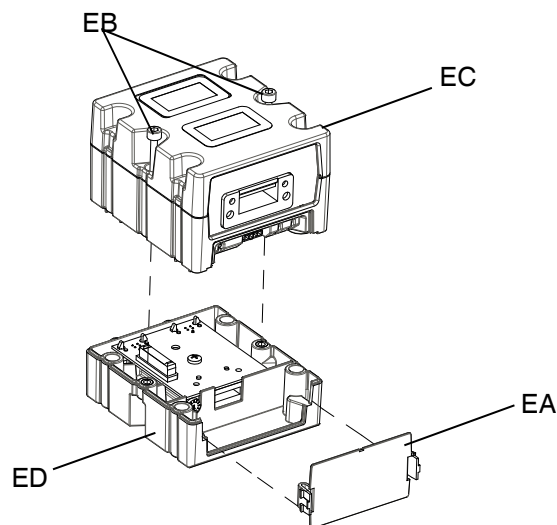

FIG. 60: Disassembling the CGM
4. Remove the access cover from the CGM (EA). Loosen the two screws (EB) and remove the CGM (EC) from the base (ED) as shown in FIG. 60.